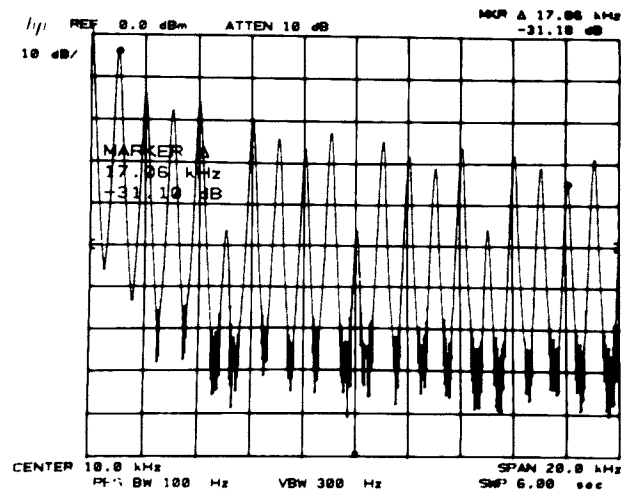

Figure 4-5. Narrow Span Measurement
6. Press MARKER Δ and position marker at the 18th comb line from the left edge of the graticule (refer to Figure 4-5).